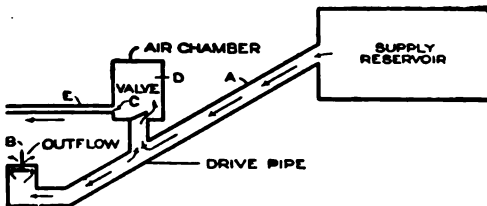
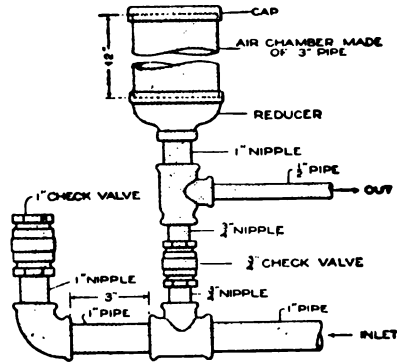

Fig. 1. Diagram Showing Operation of the Hydraulic Ram
Fig. 2. Assembly Drawing of the Pipes and Fittings of Which the Ram is Made
**T**HE hydraulic ram is used where considerable flow of water with a moderate fall is available, to raise a small portion of the flow to an elevation. The principle upon which it operates is as follows: An outflow of water falls through a pipe; when the lower end is suddenly closed, the movement is arrested, and the momentum of the current in the pipe forces a small portion of the water, through a check valve, into an air chamber, and out into the delivery pipe. When the momentum is down to normal pressure the outflow valve drops open of its own weight, and the delivery check valve closes, as shown in Fig. 1. The cycle repeats itself about 40 times a minute. Thus, the water is elevated by a succession of impulses.
A hydraulic ram, as detailed in Fig. 2, is easily built. The diagram, Fig. 1, shows the operation of the ram, the water being drawn from a reservoir, or spring, through the inclined drive pipe A to the ram. It overflows through the vertical check valve B. When the velocity of the water through the pipe reaches a certain pressure, the valve is closed. The extreme pressure in the pipe at this moment is great enough to force open the check valve C, and drive some water into the air chamber D, and thence out of the delivery pipe E.
In Fig. 2 the parts are shown assembled. The ram should be set in a